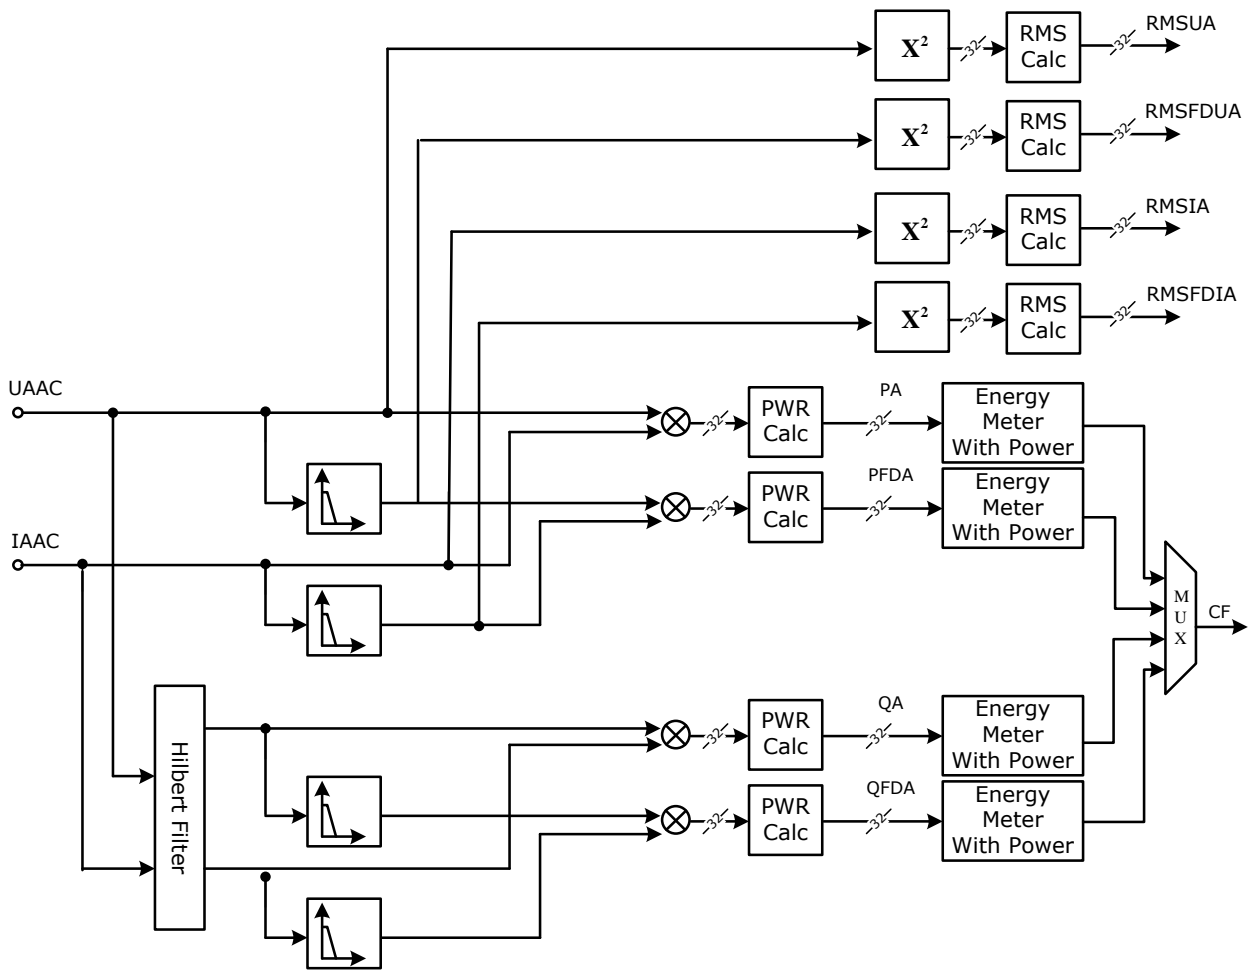

Figure 8-4 Processing Signals 3
3. Take Phase A as an example to show how the AC components of the current channels and voltage channels of Phase A/B/C are processed (Figure 8-4):